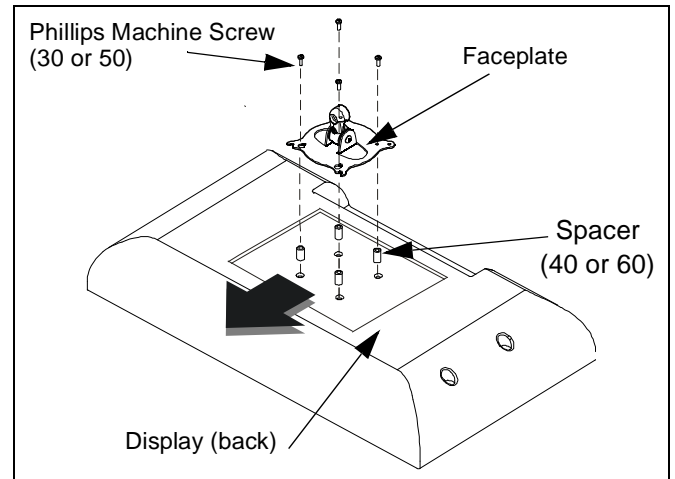

Figure 5: VESA® Recessed Mount
on back of display. (see figure 5)
5. Align mounting holes in faceplate with four spacers (40/60). (see figure 5)